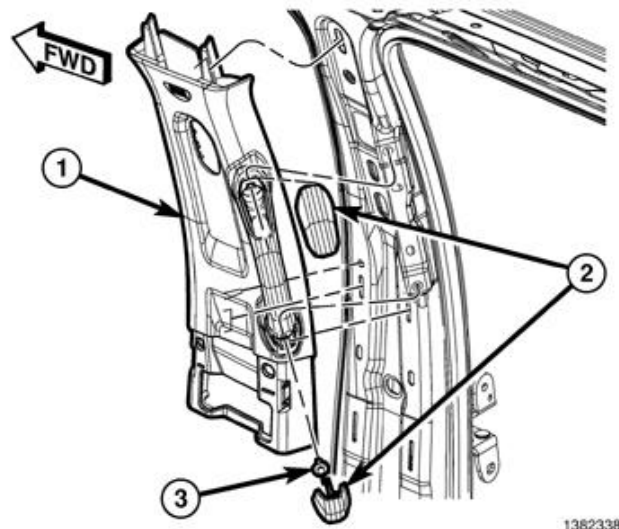

Figure 24 – B-Pillar Upper Trim Panel
- On the B-pillar, use a small flat-bladed tool to carefully open the two fastener covers (2) located on the grab handle (Figure 24).
- Using a trim stick C-4755 or equivalent, release the retaining clips that secure the B-pillar upper trim panel (1) then position the trim panel out of the way. It is not necessary to remove the seat belt from the trim panel (Figure 24).